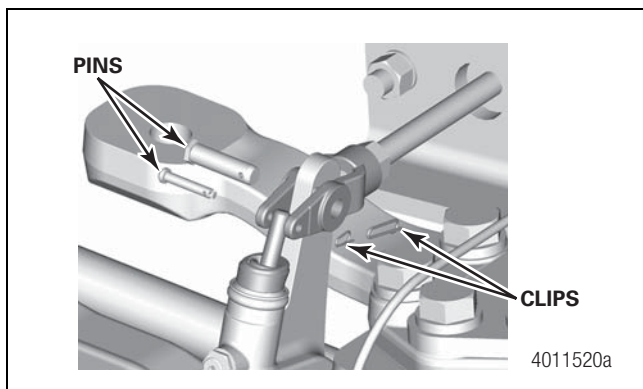

Figure 7.29
- Install the pin and retainer that engages the push rod yoke and the slack adjuster plunger rod. Figure 7.29.